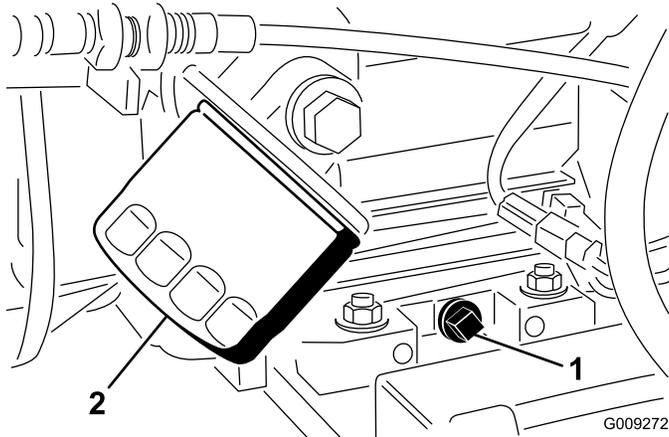

Figure 40
2. Remove the drain plug and let oil flow into a drain pan (Figure 40). When the oil stops, install the drain plug.
3. Remove the oil filter (Figure 40).